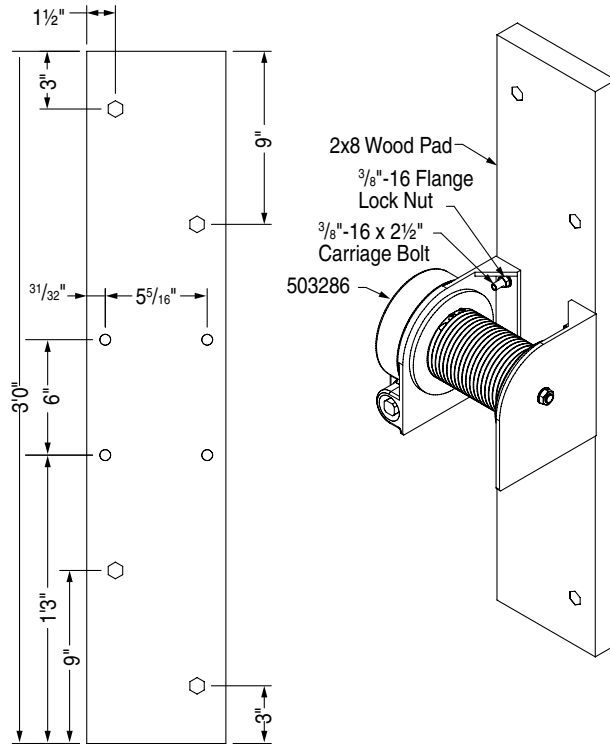

Figure 1
- ① Find installation location according to project drawings
- ② Four 7/16" diameter holes are provided for mounting the winch to wood pad or clamps. It will be necessary to remove winch cover during installation. Wall attachment hardware will vary based on field conditions
- A) To mount to 2 x 8 x 36" wooden wall pads - Locate winch at center of wood pad with the pad running vertically. Mark and drill 13/32" holes and attach using 3/8"-16 x 2 1/2" carriage bolts and flange lock nuts. Anchor wooden wall pad per Progressive recommendations and using hardware that is appropriate for wall construction and field conditions (see Fig. 1).